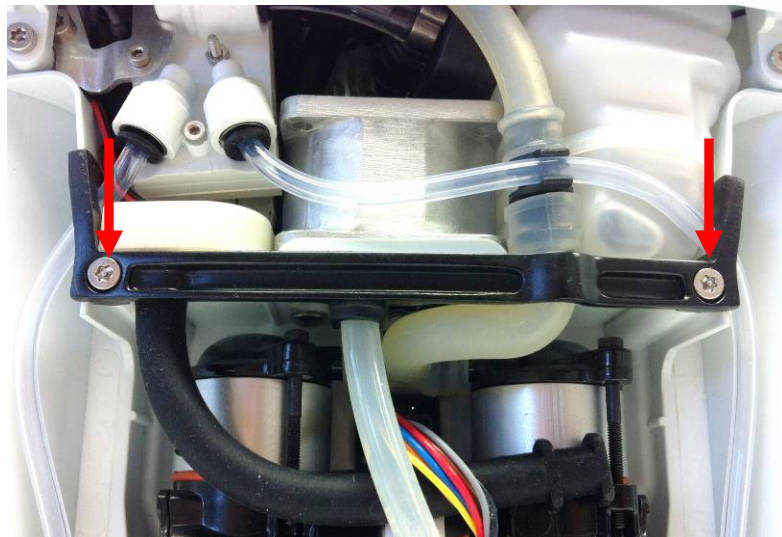

Figure 3: Tube bracket screws
1. Locate and remove the two screws that connect the tube bracket to the chassis (Figure 3). Remove the tube bracket and set aside.